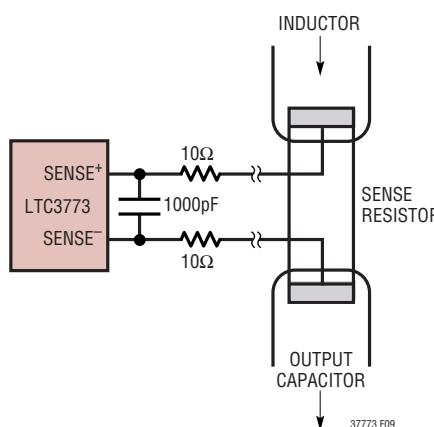

Figure 9. Kelvin Sensing R_{SENSE}
5. Are the SENSE⁺ and SENSE⁻ printed circuit traces for each channel routed together with minimum PC trace spacing? The filter capacitors between SENSE⁺ and SENSE⁻ for each channel should be as close as possible to the pins of the IC. Connect the SENSE⁺ and SENSE⁻ pins to the pads of the sense resistor as illustrated in Figure 9.